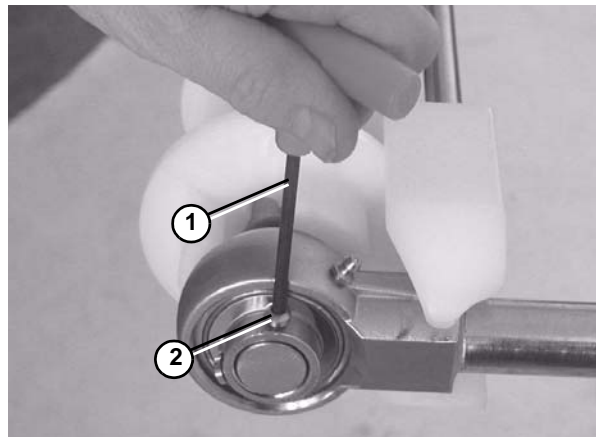

Figure 77
11. Use a hex wrench (**Figure 77, item 1**) to tighten the bearing shaft fasteners (**Figure 77, item 2**) to 54 in•lbs. Check after 24 hours of conveyor use.